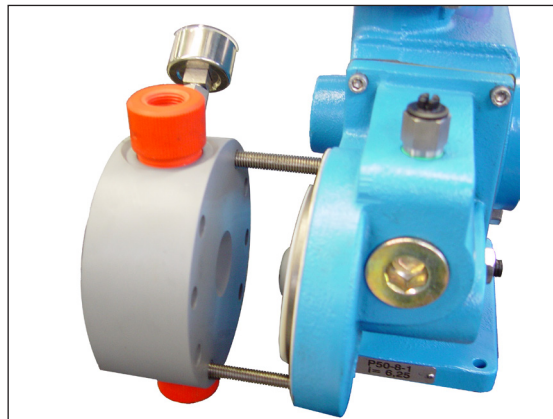

Fig. 6: Diaphragm pump body used as assembly aid.
4. Push the diaphragm pump body (526) onto the threaded rods with the side formed as an assembly aid at the front (see fig. 6).
5. Screw the diaphragm pump body (526) by hand onto the diaphragm drive housing (501) using the wing nuts (assembly aids). Tighten the wing nuts evenly when doing this. The sandwich diaphragm (527) is thus secured against twisting in the subsequent work steps.
6. Coat hexagon head screw (595) with lubricating oil.
7. Install the spring (599) with the washer/ spring plate (596) and fit the hexagon head screw (595) by hand. It may only be screwed in by hand (do not use a power screwdriver)!
8. Apply spring pre-tension manually via hexagon head screw (595).